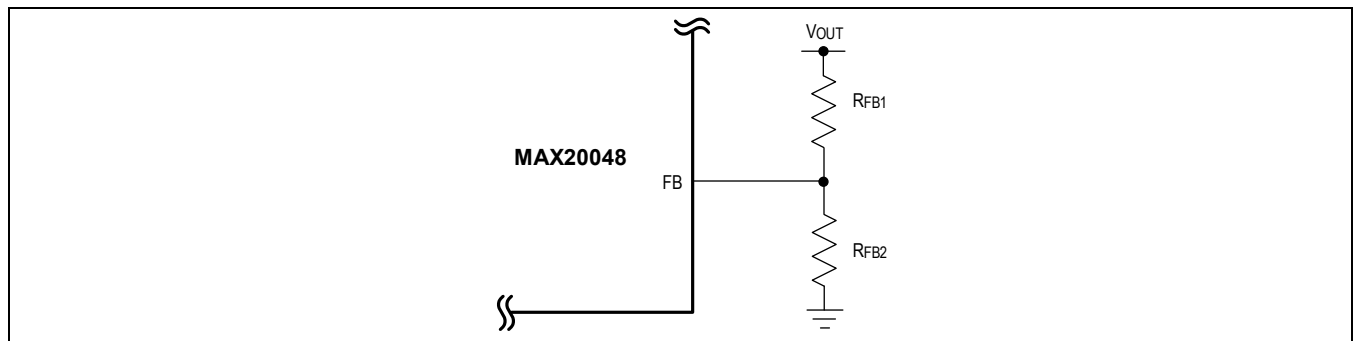

Figure 1. Setting the Output Voltage for the MAX20048
Connect FB to V_{CC} to enable the fixed output voltage (5V) set by a preset internal resistive voltage-divider connected between the feedback (FB) pin and AGND. To externally adjust the output voltage between 4V and 25V, connect a resistive divider from the output (OUT) to FB to AGND (Figure 1). Calculate R_{FB1} and R_{FB2} with the following equation:
The MAX20048 uses an internal transconductance amplifier with its inverting input and output terminals available to the user for external frequency compensation, as shown in Figure 1.